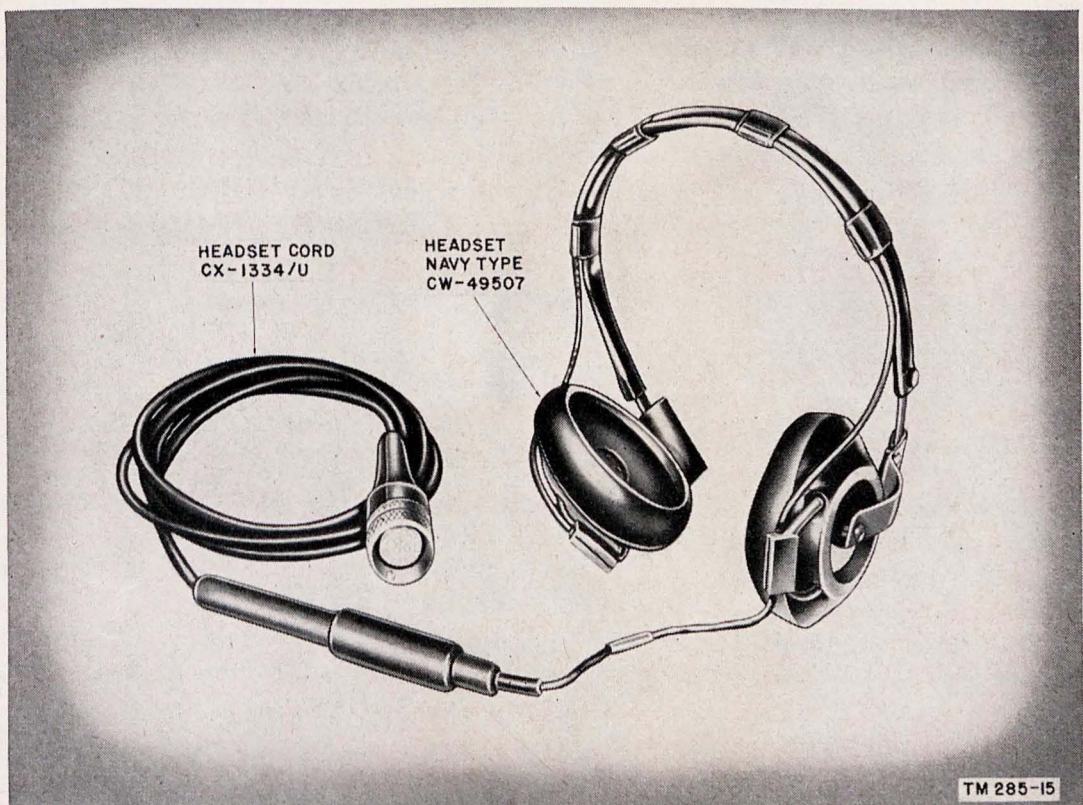

Figure 15. Headset Navy type CW-49507 and Headset Cord CX-1334/U.
g. HEADSET NAVY TYPE CW-49507 AND HEADSET CORD CX-1334/U. Headset Navy Type CW-49507 (fig. 15) consists of two series-connected 300-ohm receivers. A 14-inch cord is connected to the receivers and is terminated in a Plug PL-54. The plug will mate with Jack JK-26 on one end of Headset Cord CX-1334/U. Headset Cord CX-1334/U is 5 feet long. It is terminated in a